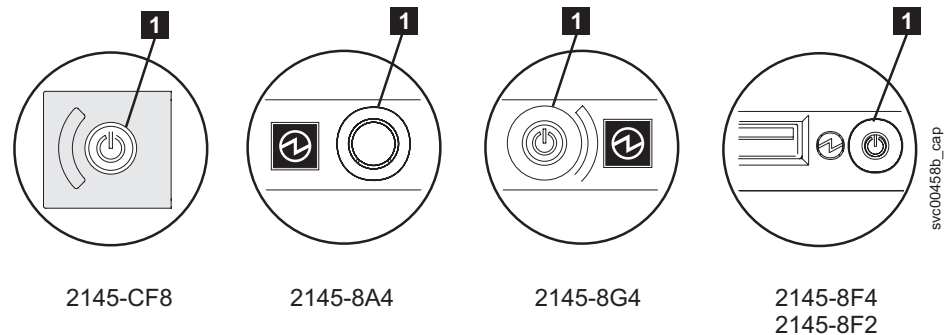

Figure 94. SAN Volume Controller models 2145-CF8, 2145-8A4, 2145-8G4, and 2145-8F4 or 2145-8F2 power-control button
- Press and release the SAN Volume Controller models 2145-CF8, 2145-8A4, 2145-8G4, 2145-8F4, and 2145-8F2 power-control button **1**, as shown in Figure 94. Wait one minute for the SAN Volume Controller to turn off. The other SAN Volume Controller nodes in the cluster might display an error code indicating that a node is missing from the cluster. Ignore this error code; it is automatically resolved when the repair is complete.